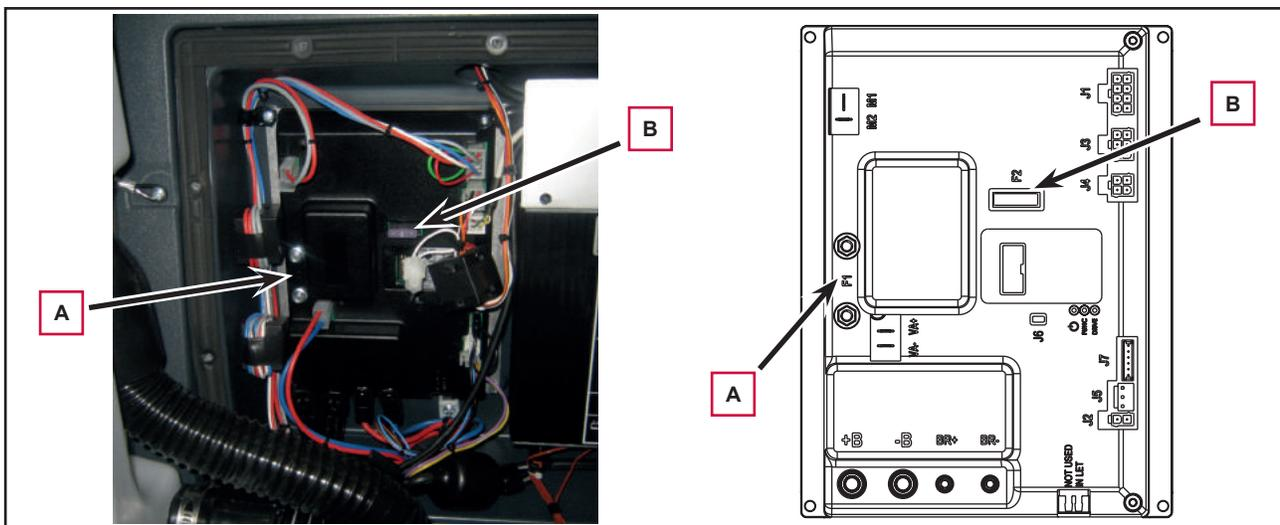

Figure 7
6. Check/replace the following fuses (Figure 7):
- (F1) 100A midi fuse - function board (A).
- (F2) 3A blade fuse - Signal circuits (B).